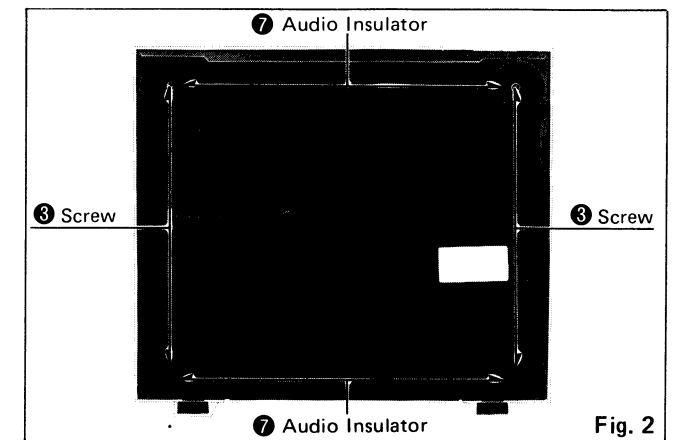

Fig. 2
4. Remove 4 setscrews ③. (See Fig. 2)